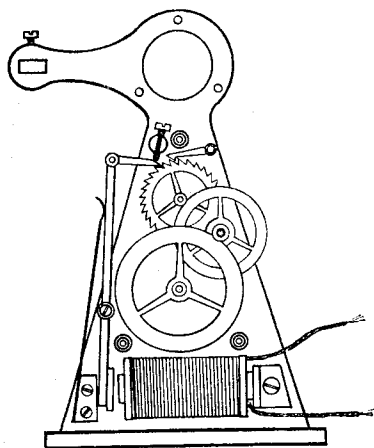

Fig. 24. Layout of impulse dial mechanism when assembled
(1) Attach electro-magnet anchorage lug with one 6-B.A. countersunk-headed screw, not too tightly. Slide coil into position and secure to base by 4-B.A. hex. nut. Do not lock too tightly.
(2) Move coil up, or down, as the case may be, until it is exactly parallel with the base line, after which, drill the $\frac{1}{16}$ -in. steady pin hole, using that already formed on lug, as a template. Remove coil.
(3) File, slightly taper an oversize brass pin and tightly insert in hole extending through both lug and about two-thirds of face, cut off the pin as close as possible, and finally file down to outer surface. Finish to medium grain.
(4) Tightly insert the two rocker arm stop-pins as shown.
(5) Reassemble electro-magnet to base as above (sub-para. 1), but lock all screws tightly.
(6) Attach rocker arm return spring with two 10-B.A. shallow-headed screws. For sake of clearness this is not shown on Fig. 14. See Fig. 24.
(7) Fit staff to rocker arm, slightly "burring" over the spigot face to secure.
(8) Attach propulsion pawl in fork of rocker arm with a highly polished 1/32 in. diameter axis pin, slightly taper. Note the pawl must be absolutely free to fall by its own weight.
(9) Assemble the backstop, or retention pawl, by one 12-B.A. shouldered screw. This pawl must also be absolutely free.
(10) Attach the iron armature to lower end of rocker arm, by two 12-B.A. shallow-headed screws. These must not extend completely through.
The remainder of assembly will be clear on examining Fig. 24. Place all three gears and rocker arm into position, with their pivots correctly located, making sure that both pawls are approximately engaged with teeth of ratchet wheel. Place the top plate carefully into position, and guide the various pivots into their respective front plate holes. Secure with three 10-B.A. nicely blued screws, with rather large heads.